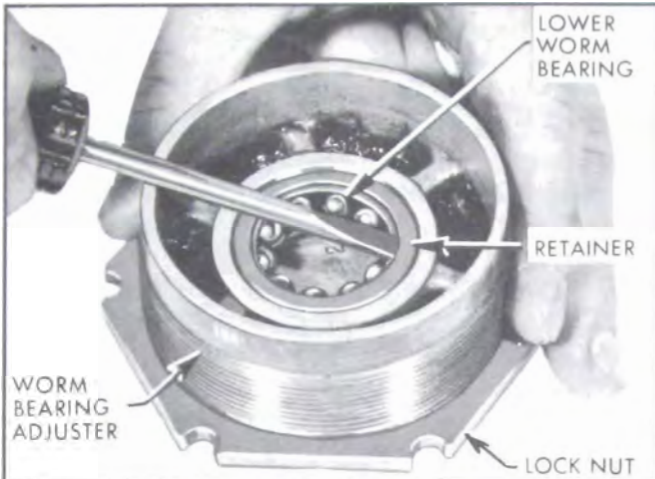

Figure 8-16—Removing Lower Worm Bearing Retainer
9. Remove lower worm bearing from adjuster by prying retainer out with a screwdriver. See Figure 8-16.